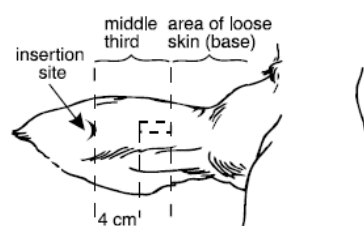
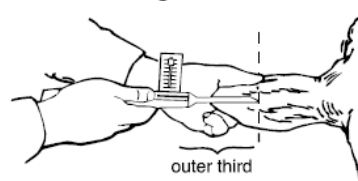

Figure 2
Figure 3
- The implant should be deposited under the skin on the back side of the middle third ear (**Figure 2**). Grasping the tip of the ear with one hand and the implanter in the other, penetrate the skin in the outer third of the ear (**Figure 3**). **IMPORTANT:** Do not penetrate cartilage.